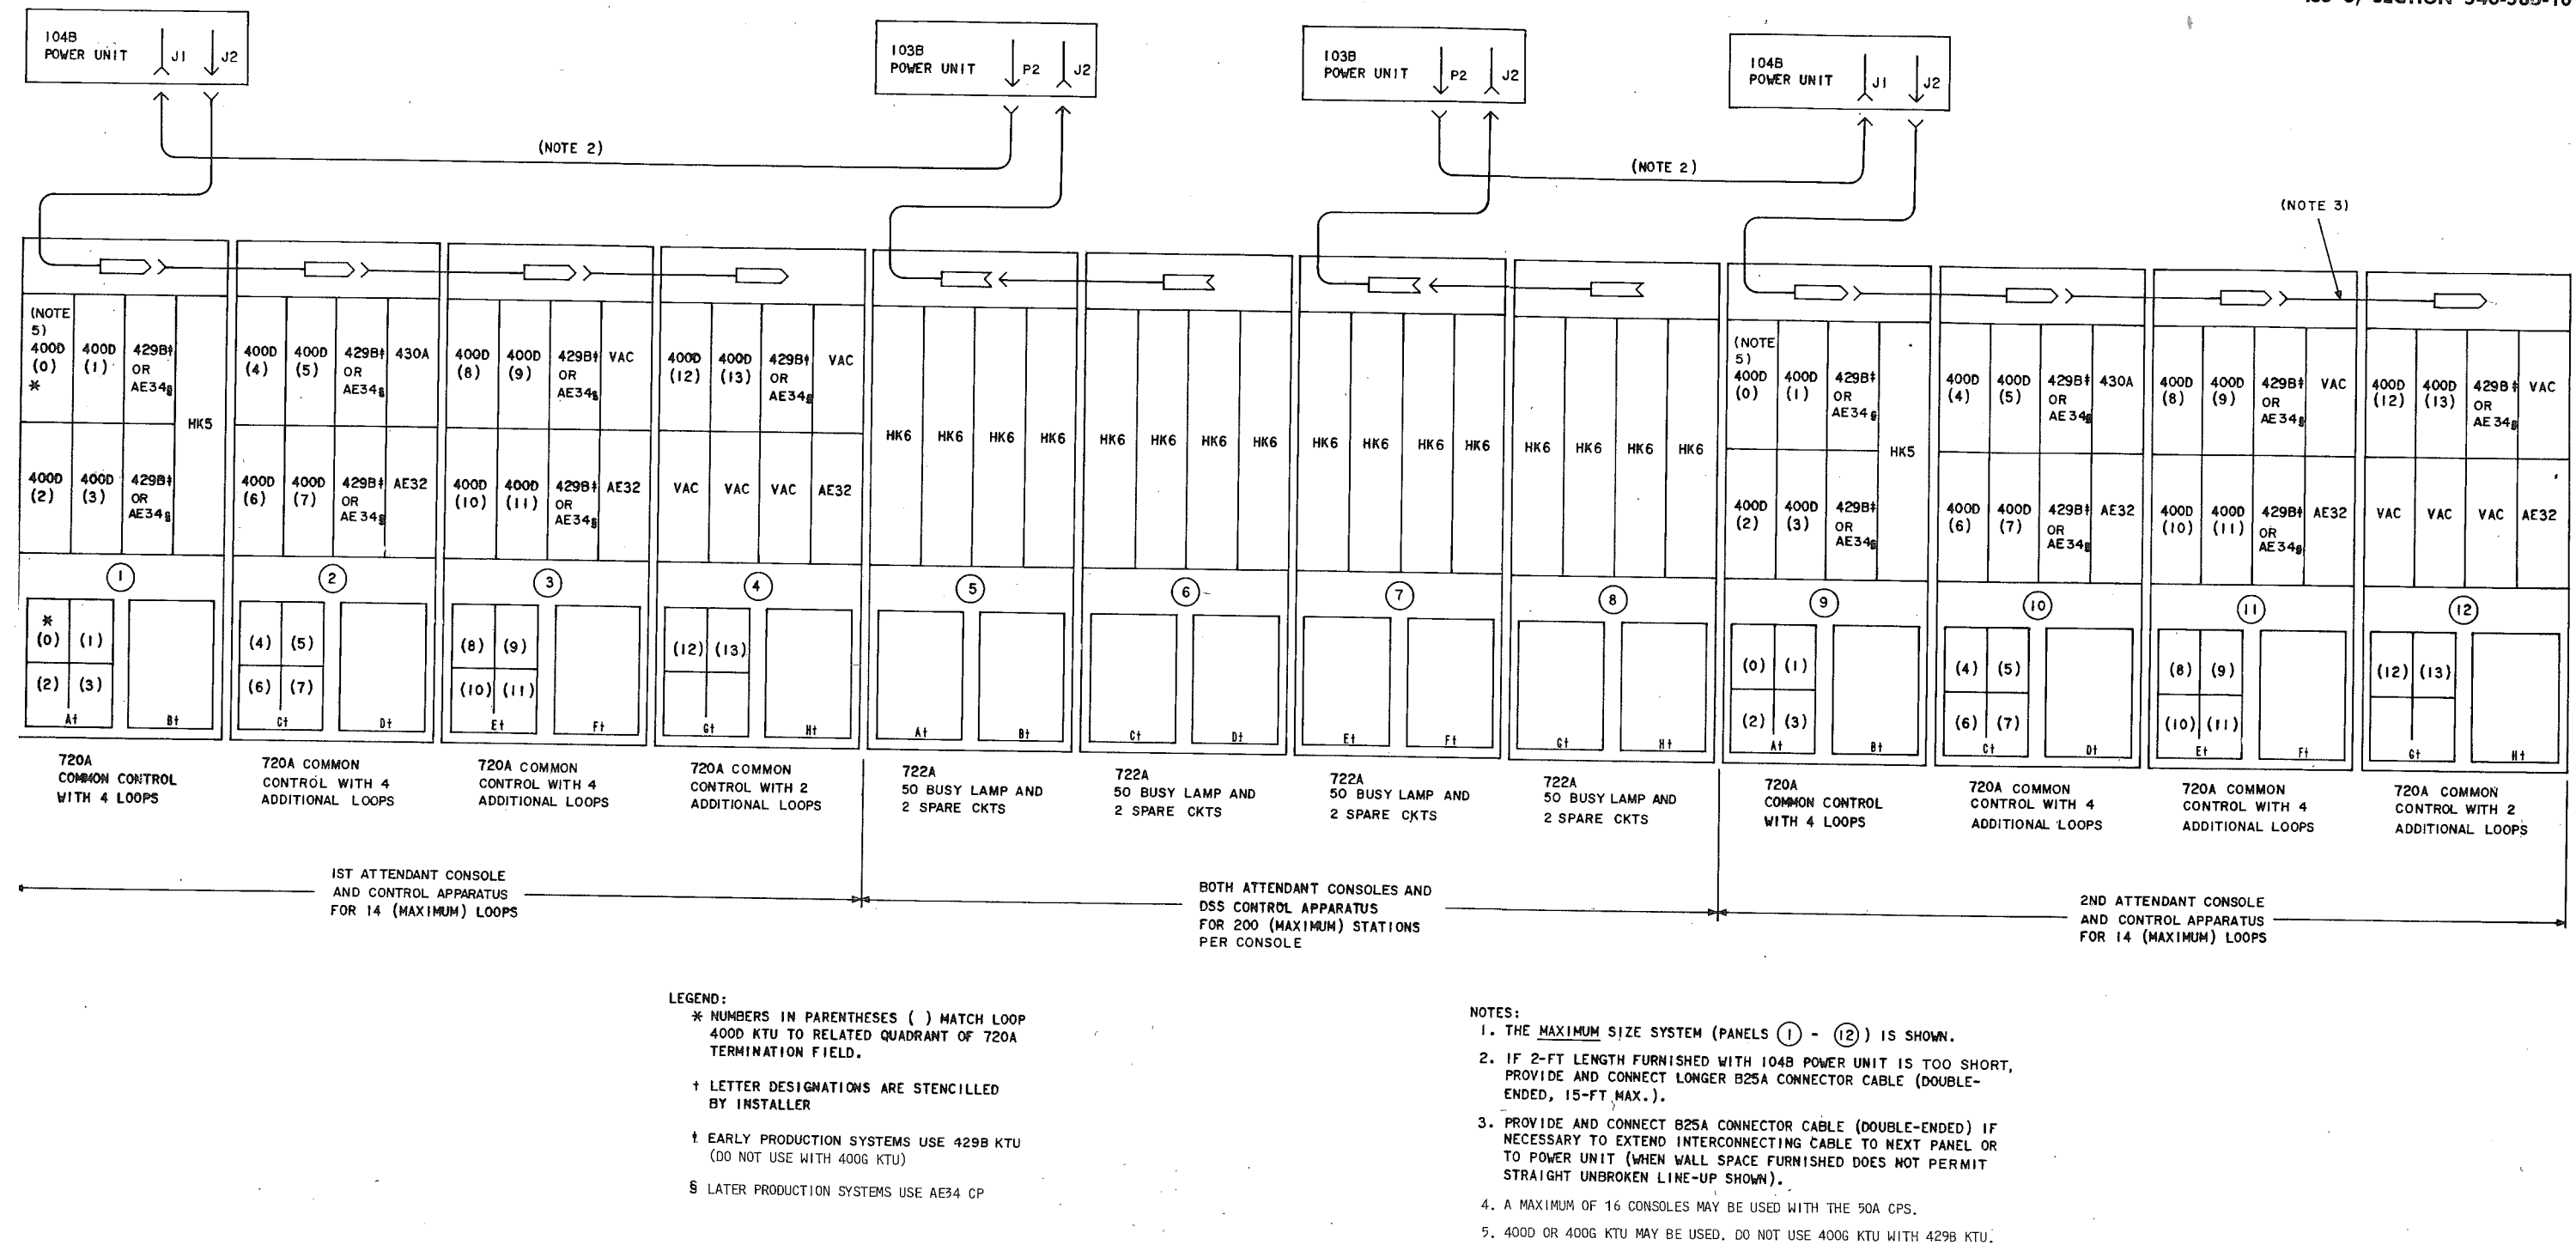
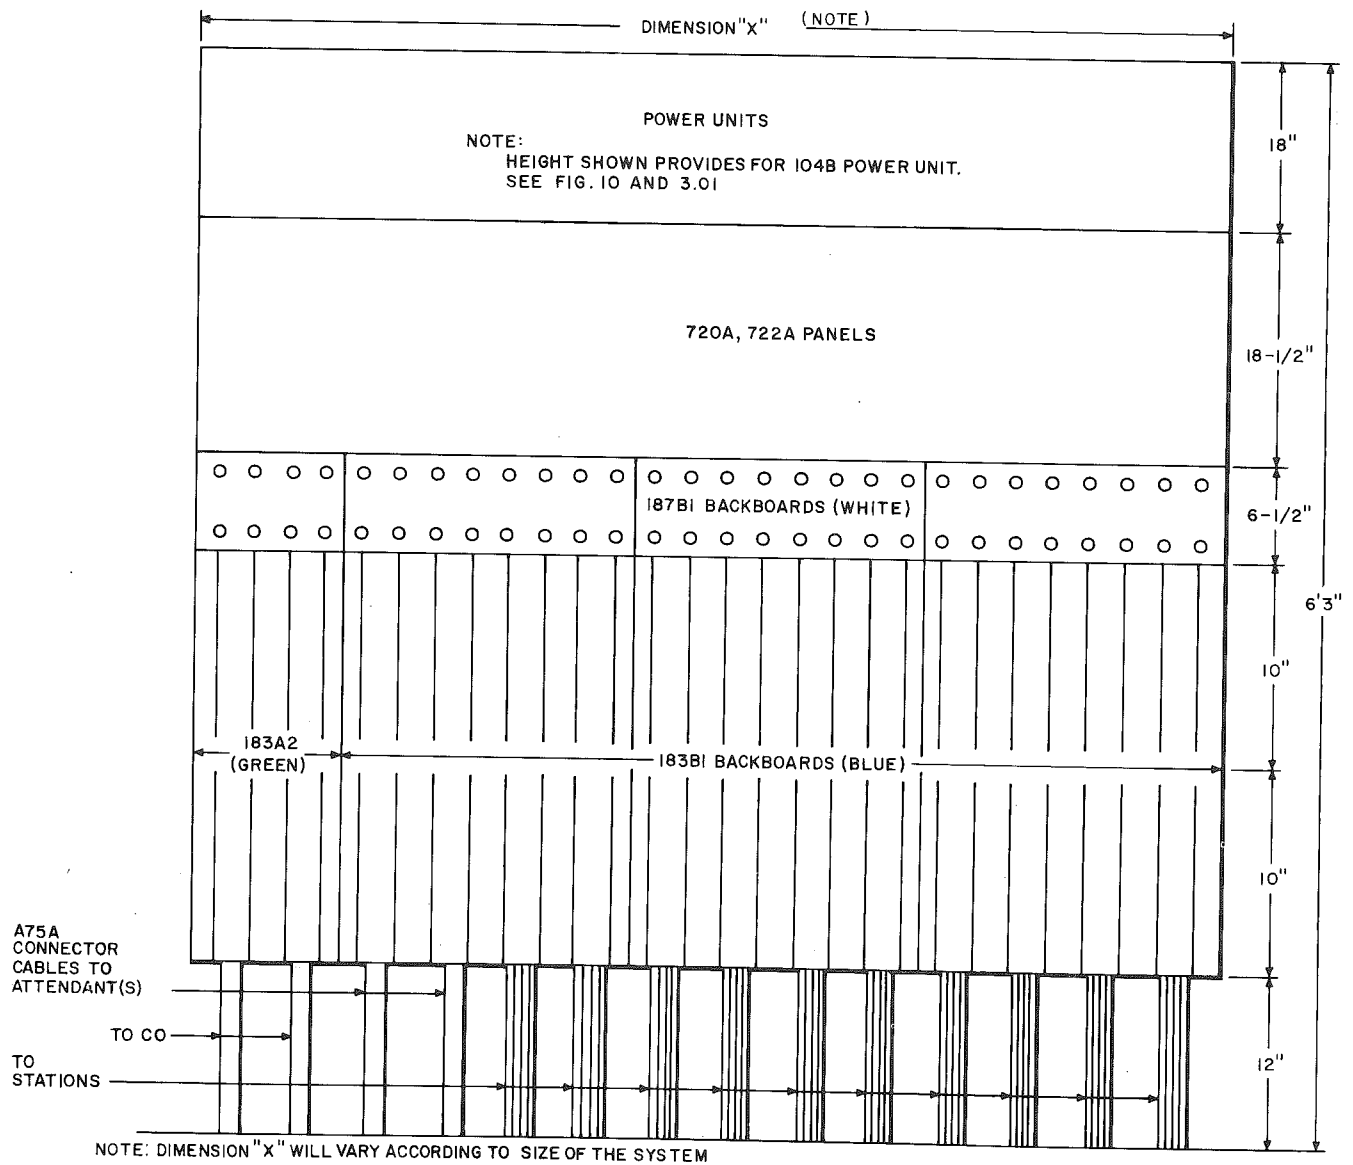

Fig. 10—Arrangement of Wall-Mounted Apparatus for Two Telephone Consoles (14 Loops Each) and 200-Station DSS (Maximum)
Fig. 11—Typical 50A CPS Centralized Terminal Field-Modular Panel Arrangement
3.01 Select a wall location (Fig. 10) for mounting apparatus that complies with the following:
117V outlets, 6- to 7-feet high (Fig. 11) and not controlled by a switch. Refer to Table A for the available lengths of power cord for the power units.
3.05 Mount required modular panels to provide desired services. Use dimensions shown in Fig. 11 as a guide. Horizontal dimensions vary with system requirements. Install separate groups of 720A panels when two consoles are provided. The 722A panels are common to both consoles. Refer to Fig. 10 which shows the largest size systems with two consoles and DSS.
3.10 Mount the power unit(s) above the modular panels (Fig. 11). One of the power units (79B-type or 103B) should be mounted on a J59203A, List 3 mounting bracket to provide storage space for the CD and SD binder. Divide 722A panels (if provided) evenly between the power units. ♦Use a maximum of two panels per power unit.♦ **Do not connect power unit(s) to ac power source at this time.**
3.12 If battery reserve (104B power unit) is provided, interconnect the 720A panels as described in 3.11 except attach cable assembly of the last 720A panel on the left to plug J2 on the 104B power unit (Fig. 10). Connect the 2-foot B25A connector cable (furnished) from connector J1 of the 104B power unit to plug P2 on the 103B power unit. Interconnect 722A panels to the left and to the 103B power unit.